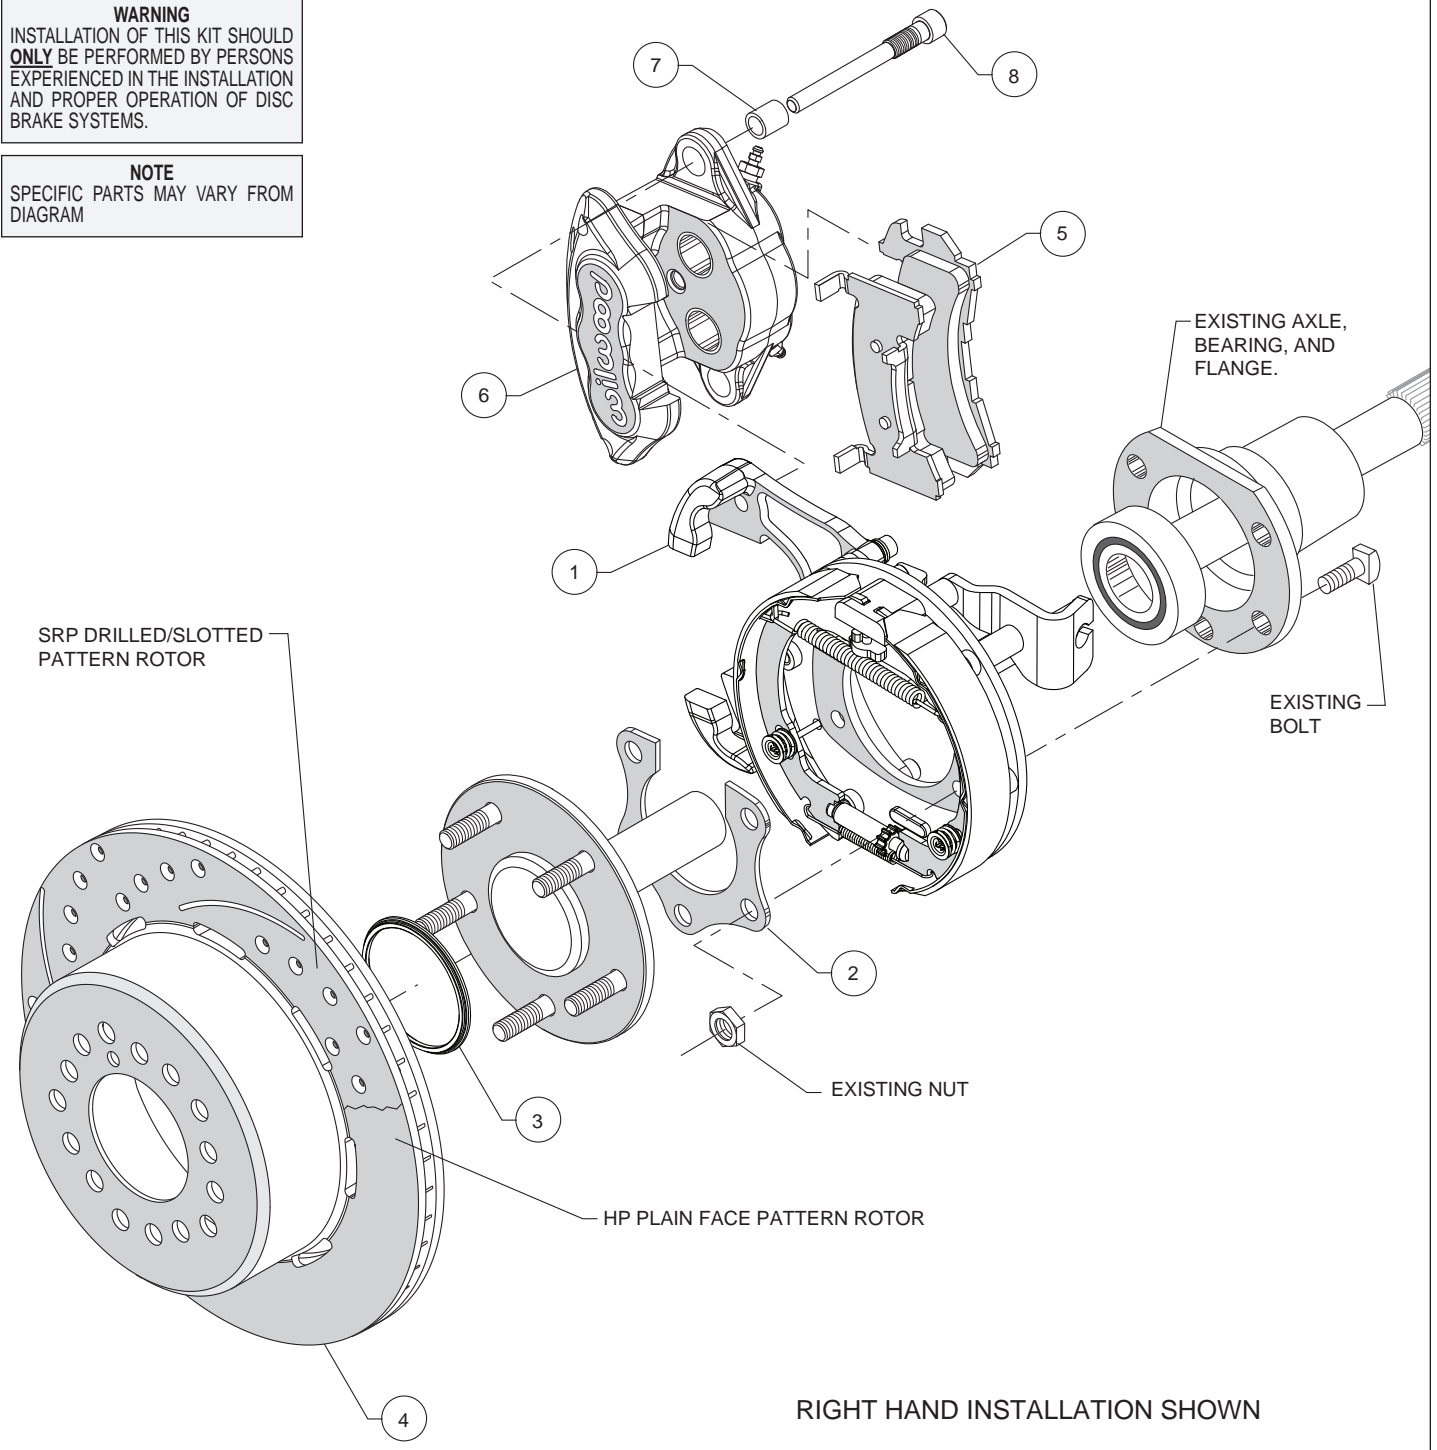

Figure 3. Typical Installation Configuration
Assembly Instructions (numbers in parenthesis refer to the parts list, and Figure 3 on the preceding pages): **CAUTION:** All mounting bolts must fully engage threaded holes.
- Temporarily remove the retaining ring and o-ring from the bearing. Use care so as not to damage those components. Orient the bracket assembly (1) as shown in Figure 3 and Photo 1 and slide it onto the axle and past the bearing. Reinstall the retaining ring and o-ring onto the bearing, again using care. Insert the axle and bracket into the axle housing. Ensure that the bracket assembly backing plate fits flush against the axle housing flange.
- Install the bearing retainer (2) with the opening pointing upward and the bearing relief step facing inward (toward the bearing), as shown in Figures 3 and 6, and Photo 2. Secure retainer and bracket assembly to the axle housing flange using the Original Equipment Manufacturer (OEM) bolts and nuts, Figure 3. Apply red *Loctite*® 271 to the OEM bolt threads and torque to OEM specifications.
- Slide the rotor registration adapter (3) onto the axle register on the axle flange with the smaller O.D. facing toward the rotor/hat (4), Photo 3. Align the correct hole pattern in the rotor/hat with the stud pattern on the axle flange and slide into place, Figure 3 and Photo 4. **NOTE:** The rotor/hat must fit flush against the axle flange or excessive rotor run out may result. Install three lug nuts (finger tight) to keep the rotor/hat assembly in place while continuing with the installation. **NOTE:** Some OEM and after market axles come with stud sizes larger than 0.50" diameter. Verify stud size and have a qualified machine shop drill the bolt circle of the hat/rotor to the correct stud size, if necessary.
- Install the disc brake pads (5) into the caliper (6) with the friction material facing the rotor, as shown in Figure 3 and Photo 5.
- Install sleeves (7) onto slide pin bolts (8). Apply white lithium grease (available from your local auto parts store) to the slide pins/sleeves, as shown in Photo 6. **Do not apply to threads.** Mount the caliper (6) onto the mounting bracket (1) using slide pin bolts, as shown in Figure 3. Torque to 35 ft-lbs.